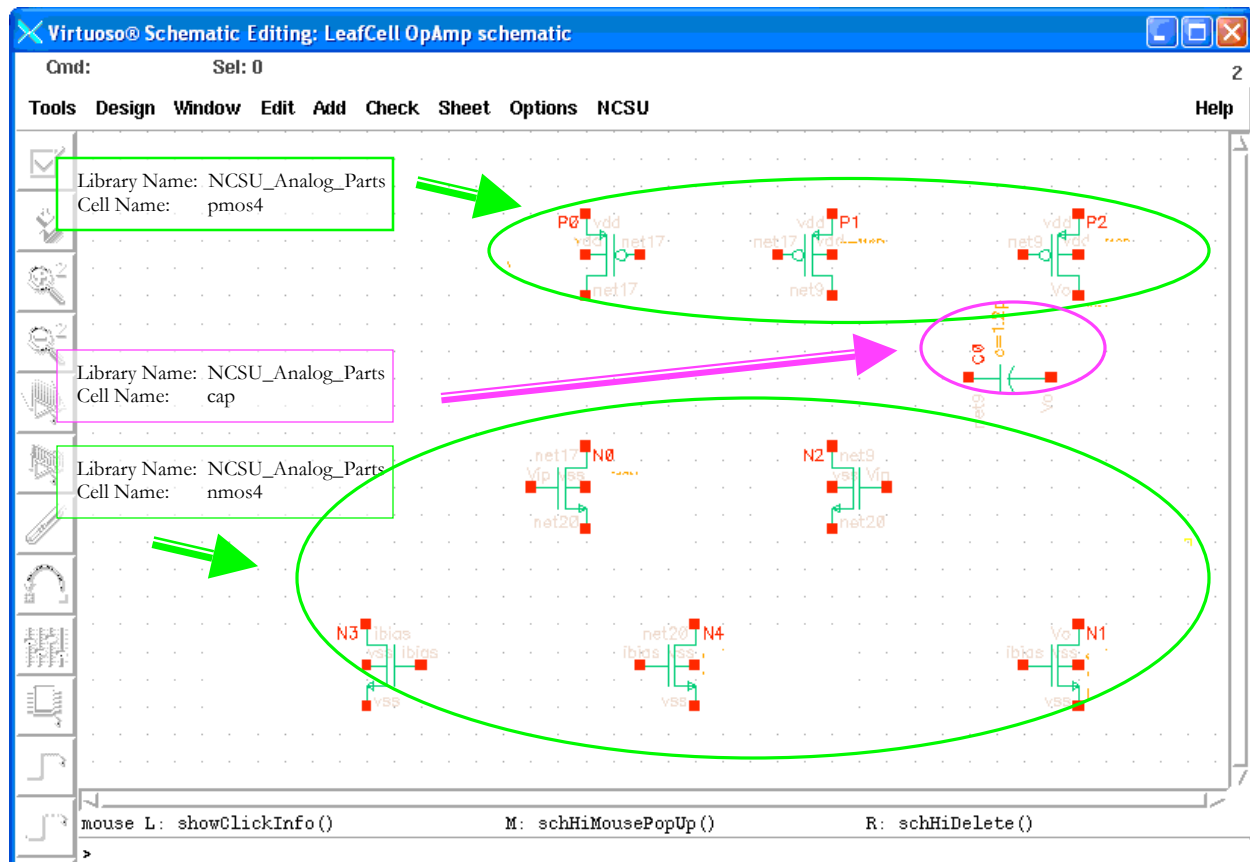

Figure 135: Adding and placing the instances.
2. Adding Instances and place them correspondingly(Figure 135)